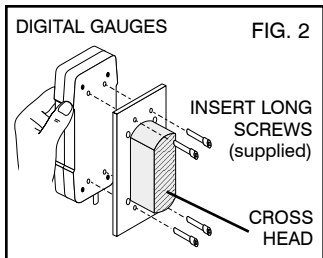
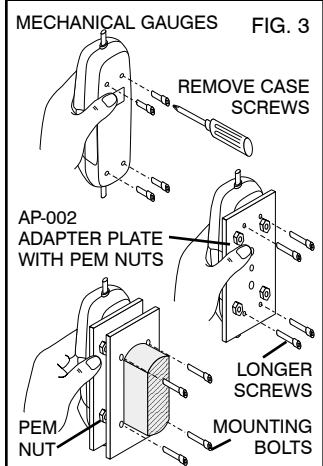

FIG. 2
FIG. 3
1. Mount **digital gauges** to the stand using the screws supplied with the stand. (FIG. 2) When mounting **mechanical gauges** to the stand, hold the gauge firmly and unscrew the 4 screws in back, making sure the case does not separate. Hold gauge up to the AP-002 adapter plate (supplied), align plate and gauge holes and insert the 4 long screws supplied to attach gauge. Next, hold gauge/adapter plate up to the test stand mounting plate. Insert bolts supplied through the mounting plate into PEM nuts on the adapter plate. (FIG. 3)
2. Loosen the allen screw in the limit (A), adjust your stop position, and re-tighten the screw. **Support the gauge/mounting plate with your hand when moving the limit so the gauge will not fall to the base and be damaged!**